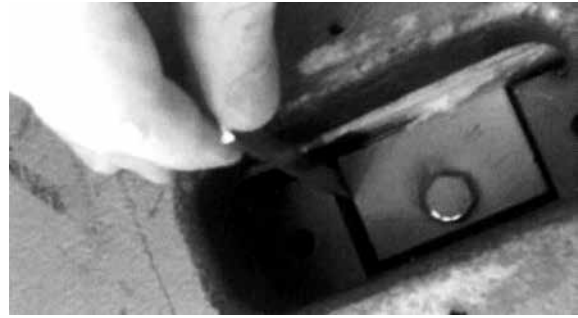
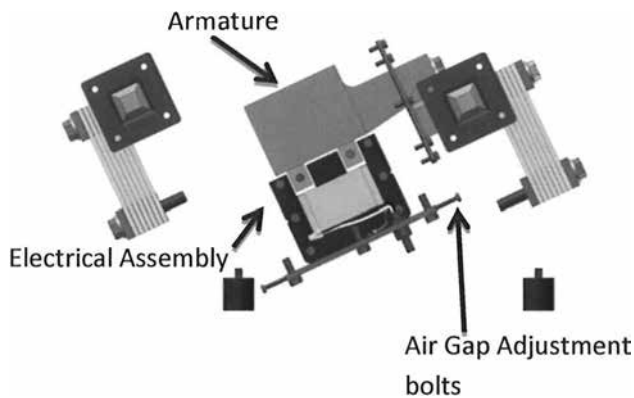

Figure 7: Gapping 76 Feeder
Figure 10: Side View With Feeder Body Removed
1. Remove both nameplates and insert the two gap gauges (furnished with the unit) between the E-frame center leg and the two armature pole pieces (see Figure 7 & 8).
7. In reassembling the unit, first center the Electrical assembly at the bottom of the body cavity; then insert the E-frame into the body cavity, making sure that the center leg enters the space between the armature pole pieces see Figures 7 & 8. Inset the bolts securing the electrical assembly and fasten only finger tight.
8. Insert the gap gauge into the air gap seen in Figure 7 & 8. The gap gauge should be able to move freely between both gaps. Use air gap adjustment bolts (Figure 10) to move the electrical assembly forward & backward until both gaps allow gauge to move freely.
9. Be sure to check air gap onc.e armature and electrical assembly have been installed and then once more after the tray is installed (Figures 7 & 8).